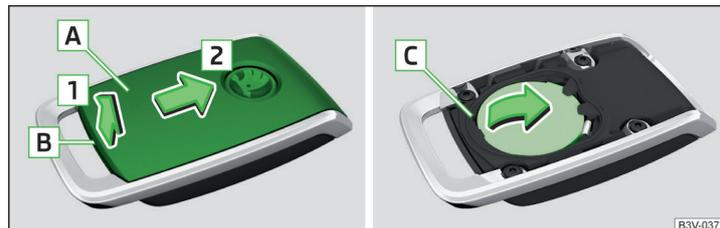

Fig. 333 Open the cover/remove the battery
- › Use a thin screwdriver to remove the cover **A** in the area **B** » Fig. 333.